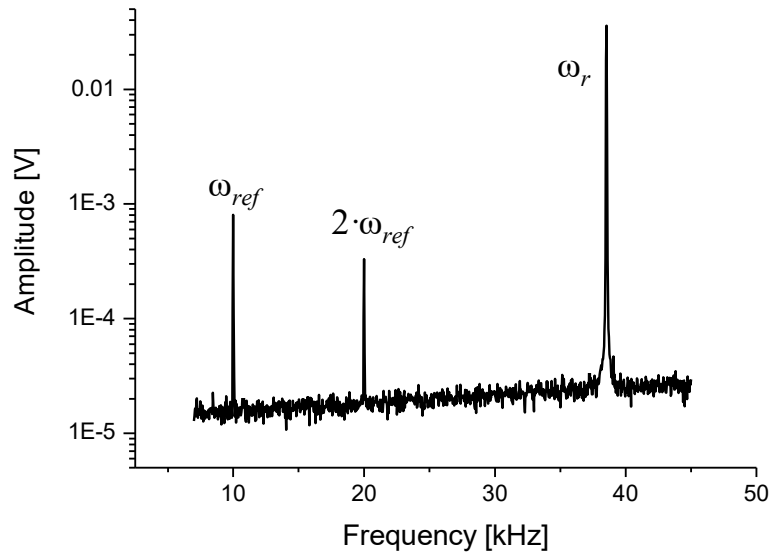

Figure 7: Frequency spectrum of the oscillating cantilever
Inserting equation (6) in (5) and using power-reduction formulae of trigonometric functions one can expect a force between tip and sample at the frequency  $\omega_{ref}$  as well as at  $2 \cdot \omega_{ref}$ . Figure 7